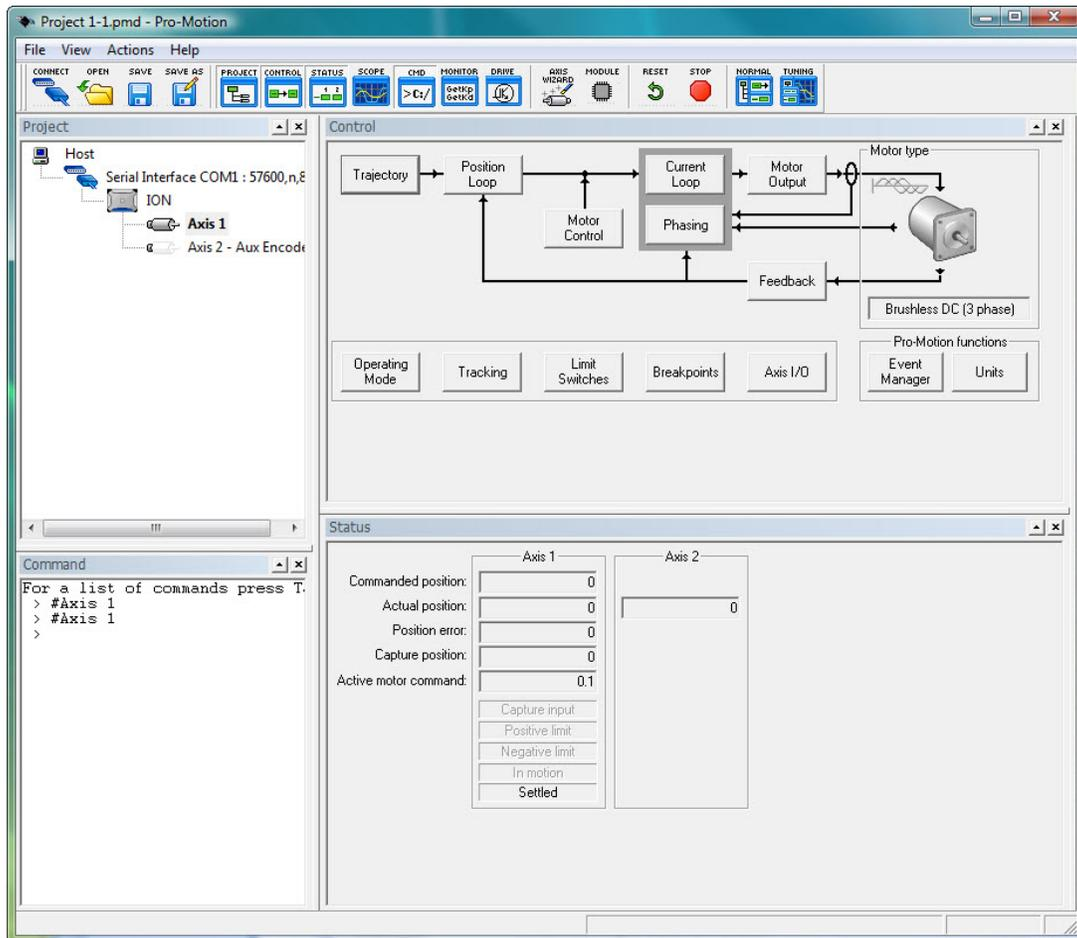
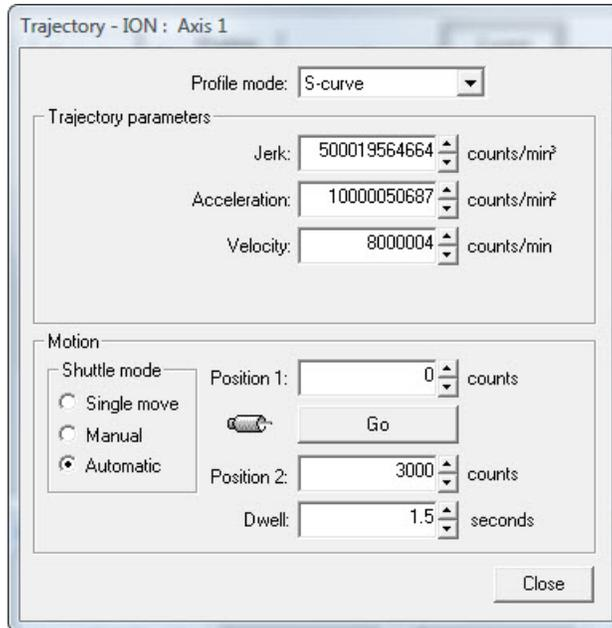

Figure 2-1: Pro-Motion® interface: Normal view
Figure 2-4: Trajectory dialog box
- If the connection is made, Pro-Motion's® Normal View is displayed (Figure 2-1), and Pro-Motion® is ready for use.
- If Pro-Motion® finds the ION® Demo Kit, it will make the connection and open in Normal View (Figure 2-1) with the model number of the connected motor and its axes displayed in the Project window.
Click on the “Trajectory” box in the “Control” window (Figure 2-1). It will open up a window like the one seen in Figure 2-4.